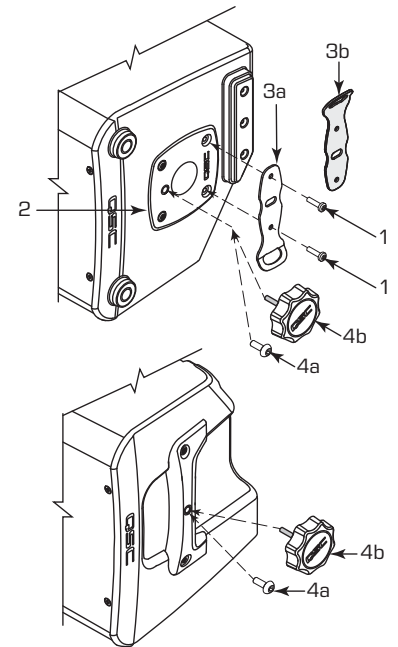

Figure 3
Refer to Figure 3
1. Use a Phillips screwdriver to remove two screws (1) from the pole-cup bracket (2). The screws are beside the QSC Logo,
2. Use the screws (1) you just removed to secure the tether bracket (3) to the pole-cup bracket. You can install the tether bracket one of two ways (3a or 3b). The tether bracket can only be installed on the bottom of the loudspeaker in the location shown in Figure 3.